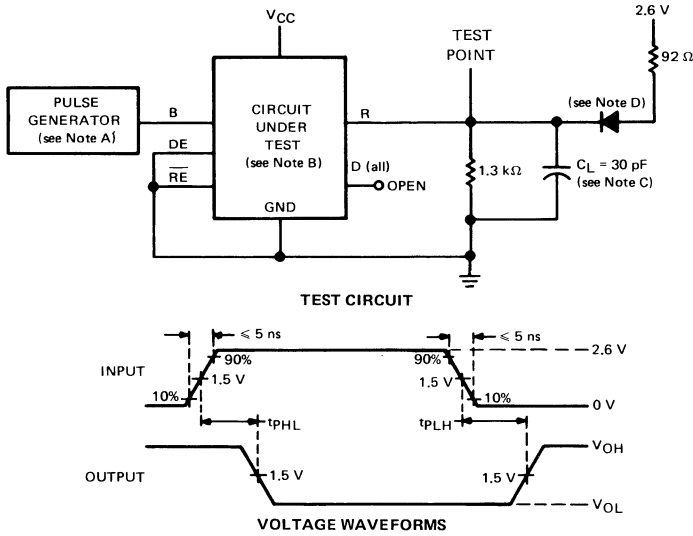

FIGURE 1—PROPAGATION DELAY TIMES FROM BUS TO RECEIVER OUTPUT
- NOTES: A. The pulse generator in Figures 1 and 2 has the following characteristics: PRR = 10 MHz, duty cycle = 50%, $Z_{out} \approx 50 \Omega$.